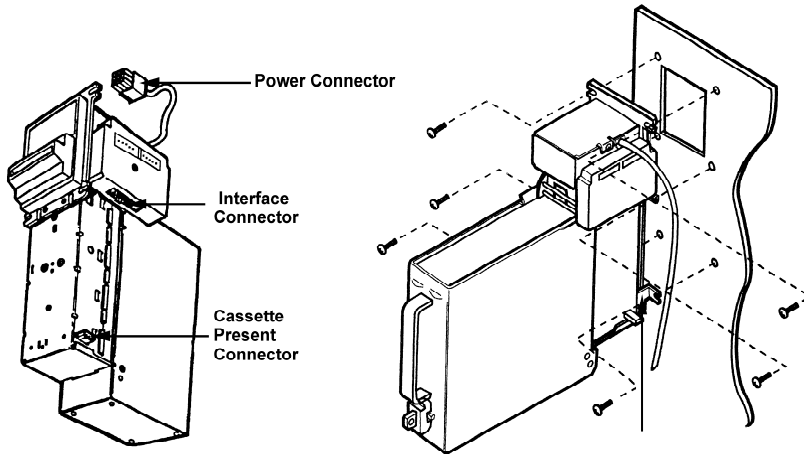

Figure 4. Mounting / Harness Connections
1. Connect the power harness to the 9 pin power connector of the Bill Acceptor (Figure 4). Connect the 18 pin connector of the interface harness to the 18 pin connector socket on the control board (Figure 4). Connect the 2 pin cassette present harness (if applicable) to the cassette present connector (Figure 4).
2. It is recommended to use a *Support Bracket* (kit # 111638145) for the stacker housing when using any cassette larger then 600 bills, see figure 4.